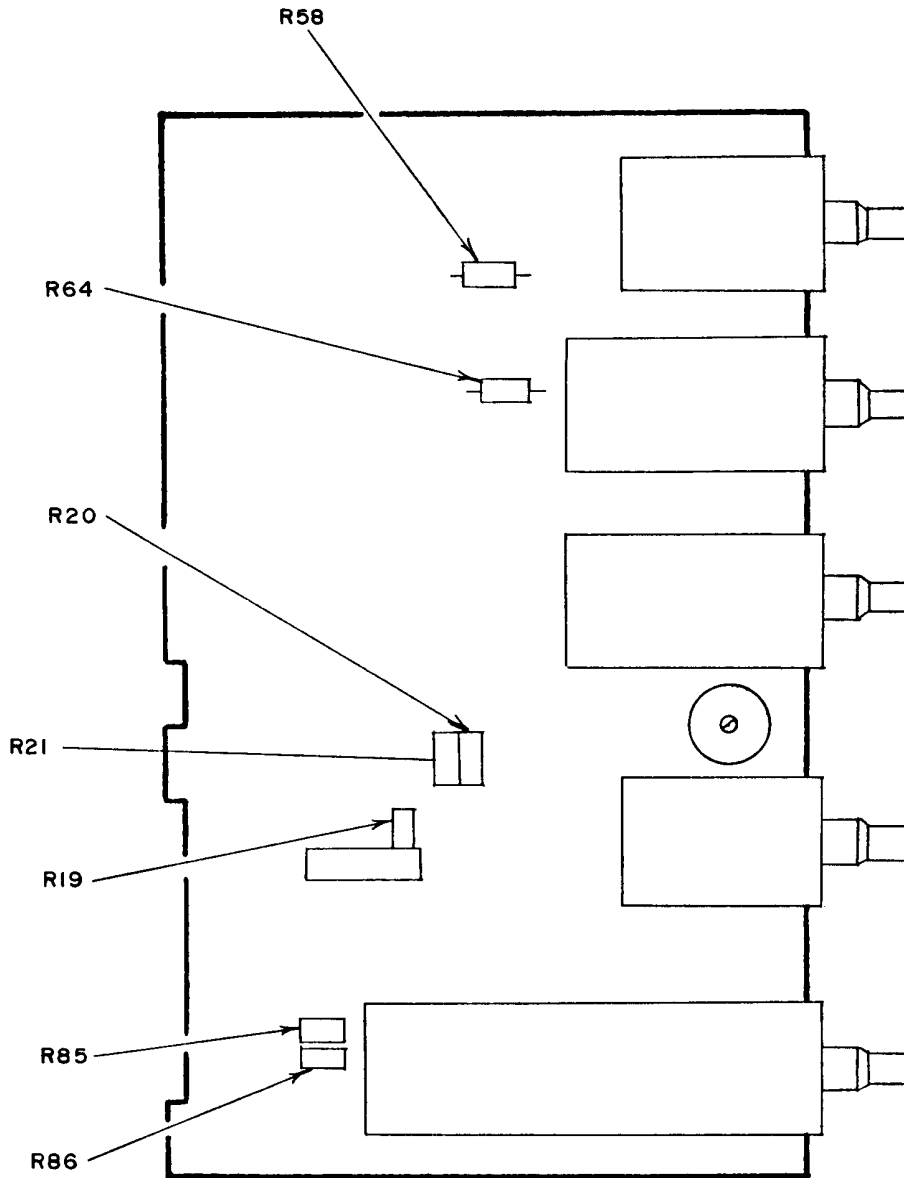

Figure 2. Gull Airborne Instruments, Model GTF-4 – adjustment locations
| Test Instrument           |             | Variable capacitororstandard capacitor |        | Adjustments(fig. 2) |
**b. Adjustments.** Adjust R85 (fig. 2) on 200 pF range and R86 on 1000 pF range for a zero indication then repeat (2) through (4) above.
- (1) Adjust R58 (fig. 2) for a reading of **.1000 MΩ** on digital indication.
- (2) Adjust R64 (fig. 2) for a reading of **.9500 MΩ**.